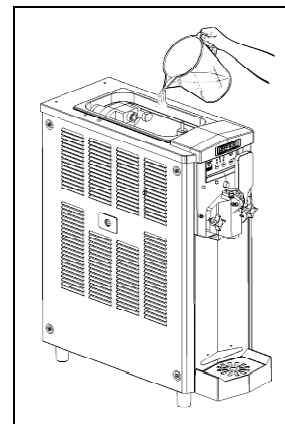

Fig. 14
- Fill the top tank with hot water (fig. 14) and wait a few minutes.